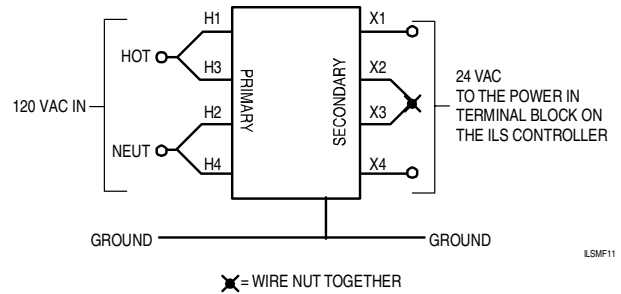
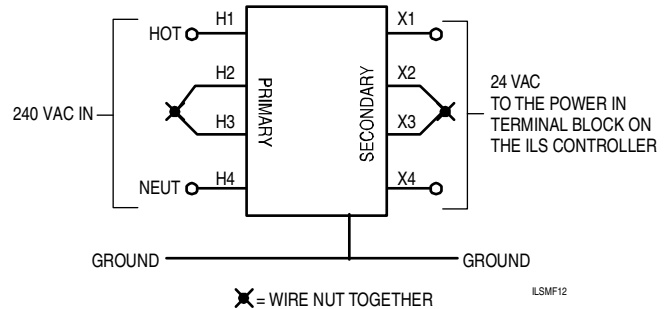

Figure 12. From a 120 VAC Supply
Figure 13. From a 240 VAC Supply
- Connect the line voltage (120 or 230 VAC) to the primary side of the transformer as shown in Figure 12 and Figure 13, to conform to the local and national electrical codes.